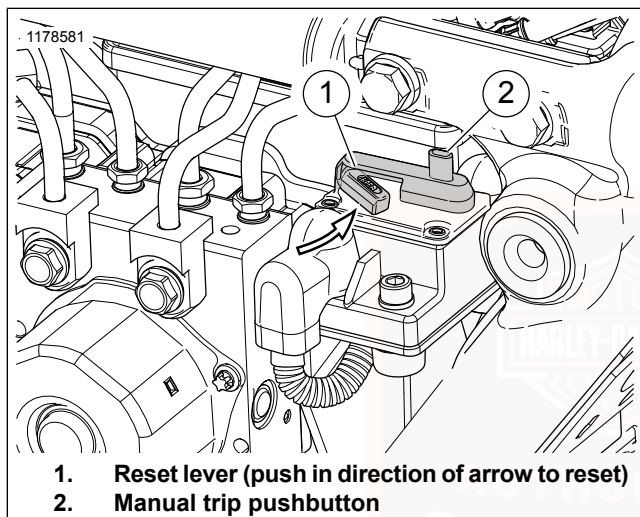

Figure 90. Reverse Motor Circuit Breaker
See Figure 90. The circuit breaker is located in the electrical caddy behind the right side cover. This manually resettable circuit breaker has a red trip pushbutton (2) and a reset lever (1). To manually trip the circuit breaker, push down on the trip push button (which causes the reset lever to extend out).